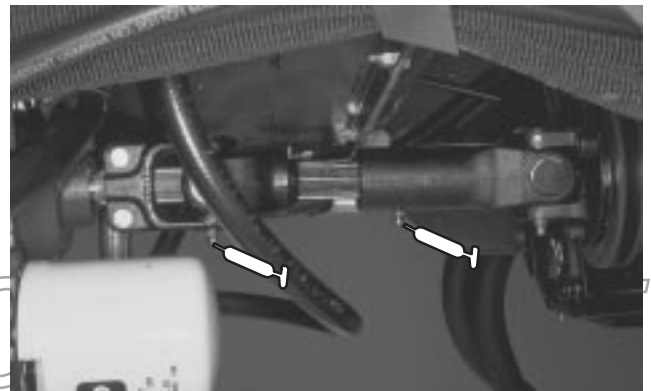
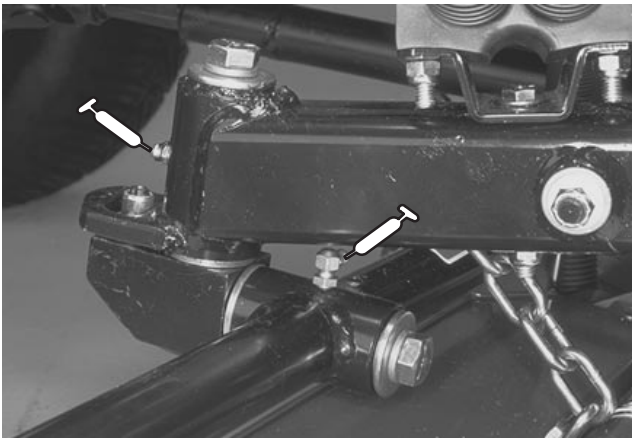

Figure 40
Figure 41
The grease fitting locations and quantities are: Engine Drive shaft (3), (Fig. 40); Cutting unit carrier frame and pivot (2 ea.), (Fig. 41); Lift arm pivots (5), Drive shaft clutch (1) (Fig. 42); Rear axle tie rod (2), Steering cylinder ball joints (2), Axle steering pivots (2) Rear axle pivot (1) (Fig. 43); Traction control linkage at transmission (1),